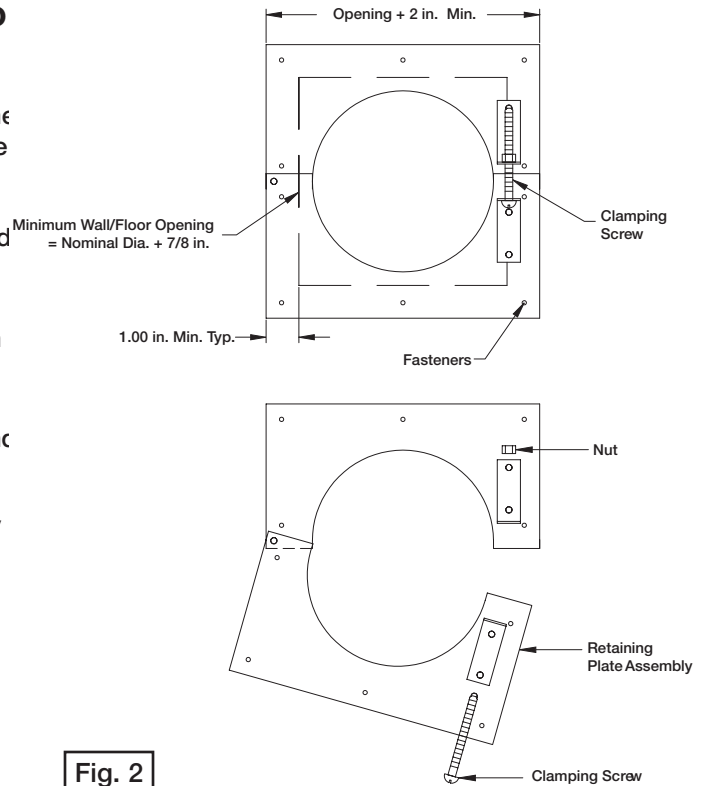

Fig. 2
- The retaining plate(s) will open up for easy installation when the clamping screw is loosened. If necessary, remove the clamping screw and nut (see **Fig. 2**).